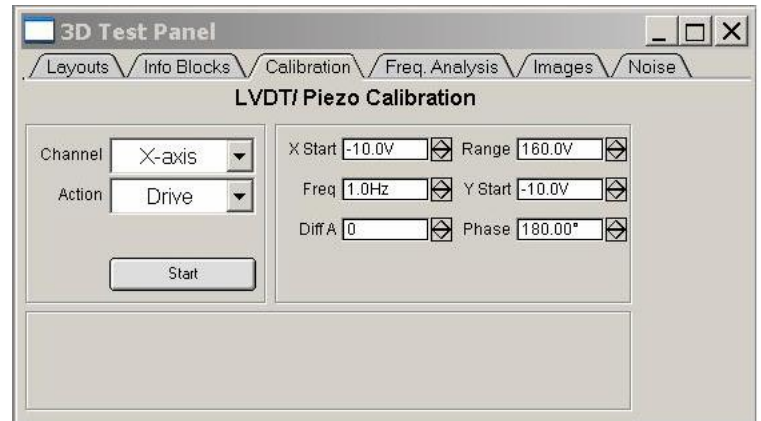
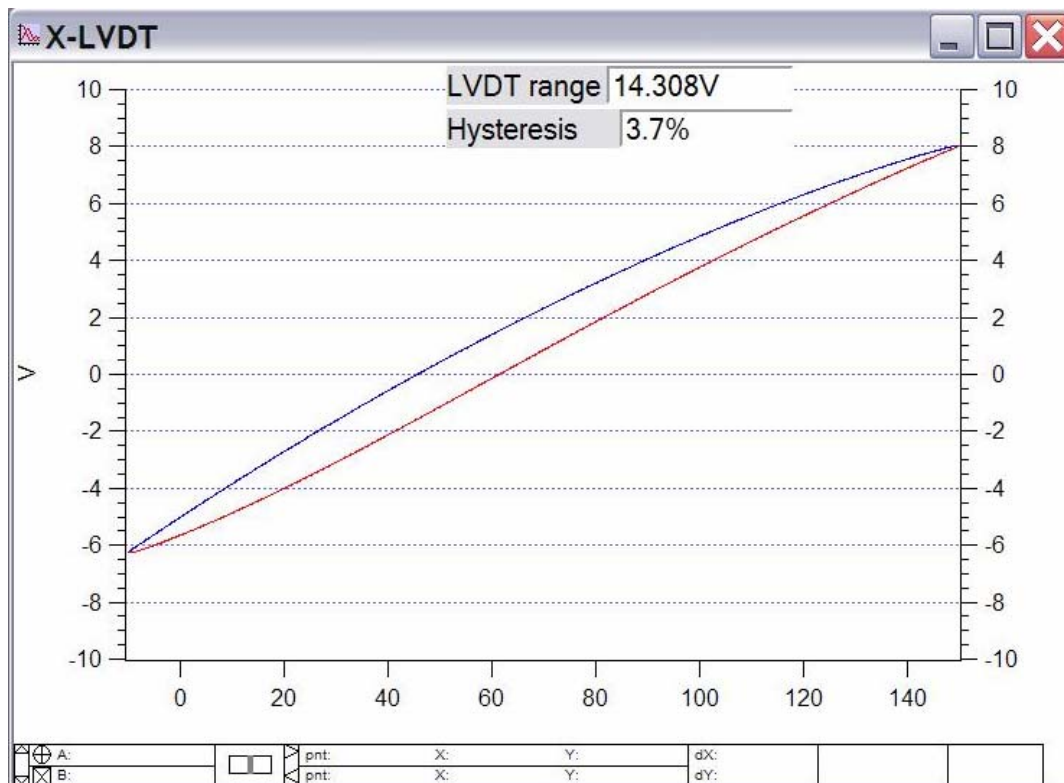

Figure 45: Calibration tab of 3D Test Panel
Figure 46: typical LVDT (X or Y) scanner hysteresis plot.
- **Scanner calibration:** You can check the health of your scanner by clicking the Calibration tab of the 3D test panel (Figure 45). Choose the scanner from the pull-down menu, make sure it is in the 'Drive' Action, and X (Y or Z) start -10 V and range 160 V. Click 'Start' button. A graph similar to Figure 46 comes up. You should have a nominal range of ~ 14 V, and a hysteresis value of 4 % or less (*not sure on AR's specs on the percentage*).